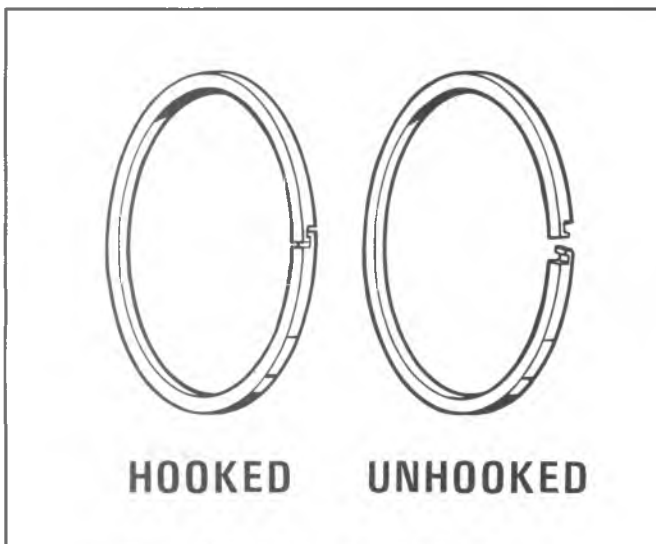

Figure 7A6-155 Cast Iron Oil Seal Rings
2. Install center support to direct clutch thrust washer (Figure 7A6-156).